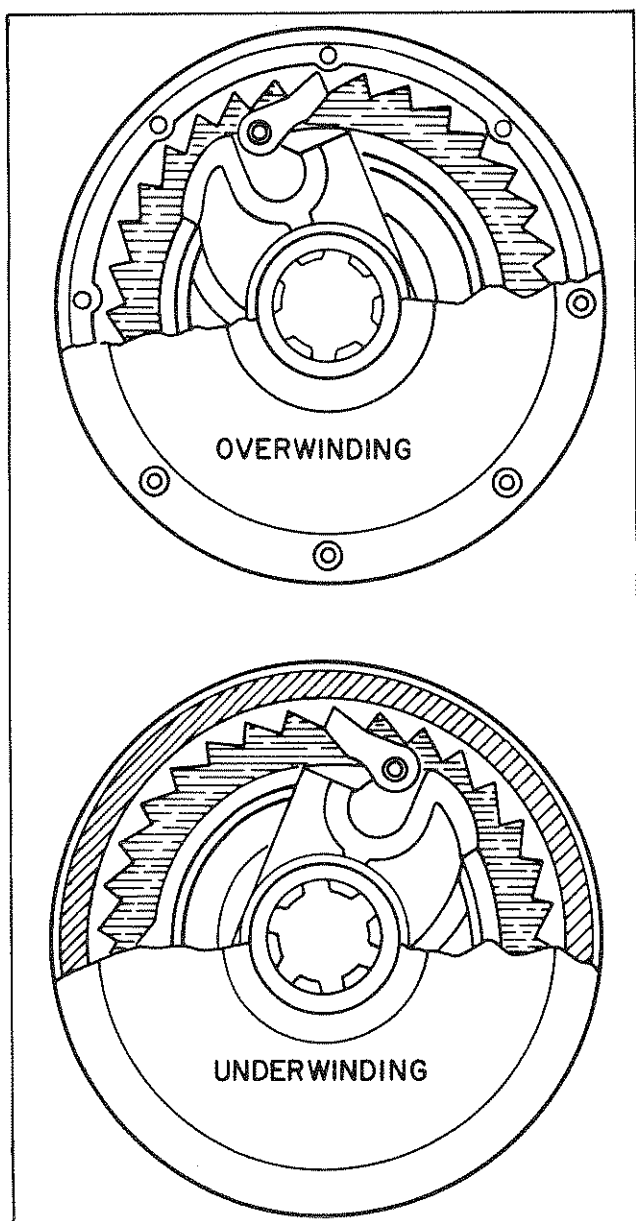

Figure 4-9. Automatic Brake (Optional) Arrangement.
b. Automatic brake (optional) arrangement (See figure 4-9.) Remove the automatic brake assembly and re-install it with the word OVERWINDING to the outside.
b. Automatic Brake (optional) arrangement (See figure 4-9) Remove the automatic brake assembly and replace it with the word UNDERWINDING to the outside.